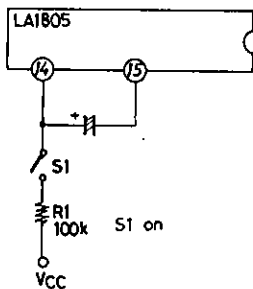

Fig.1 Forced Monaural Mode Setting Method
Figs.1 and 2 show how to cause the forced monaural mode to be entered.
- ① Connect pin 14 to VCC through a resistor of 100k $\Omega$ . (Turn ON the SW1 in Fig.1.)